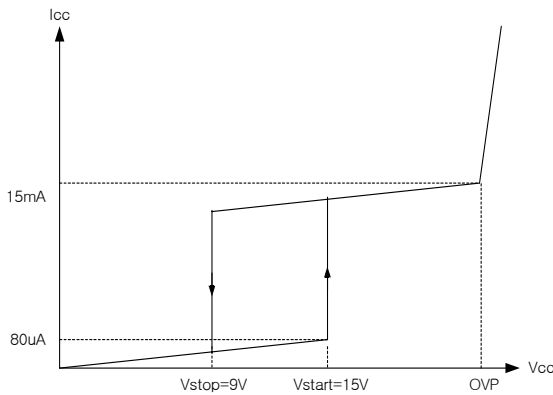

Figure 1. Start up with hysteresis
1. Start up : To guarantee stable operation of the control IC, FS8S0765RCB has UVLO circuit with 6V hysteresis band. Figure 1 shows the relation between the supply current (I_{cc}) and the supply voltage (V_{cc}). Before V_{cc} reaches 15V, the FPS consumes only startup current of 80 μ A, which is usually provided by the DC link through start-up resistor. When V_{cc} reaches 15V, the FPS begins operation and the operating current increases to 15mA as shown. Once the control IC starts operation, it continues its normal operation until V_{cc} goes below the stop voltage of 9V